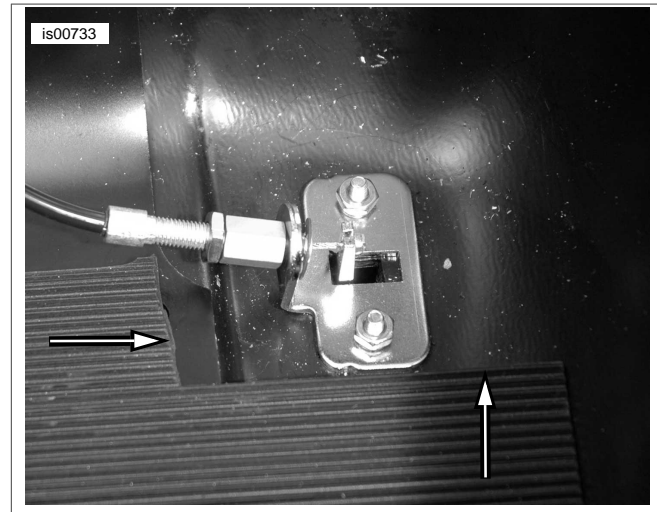

Figure 4. Trim Rubber Mat
1. See Figure 4. Trim the front-right corner of the rubber mat with a box cutter or scissors to allow the cable assembly to be installed.